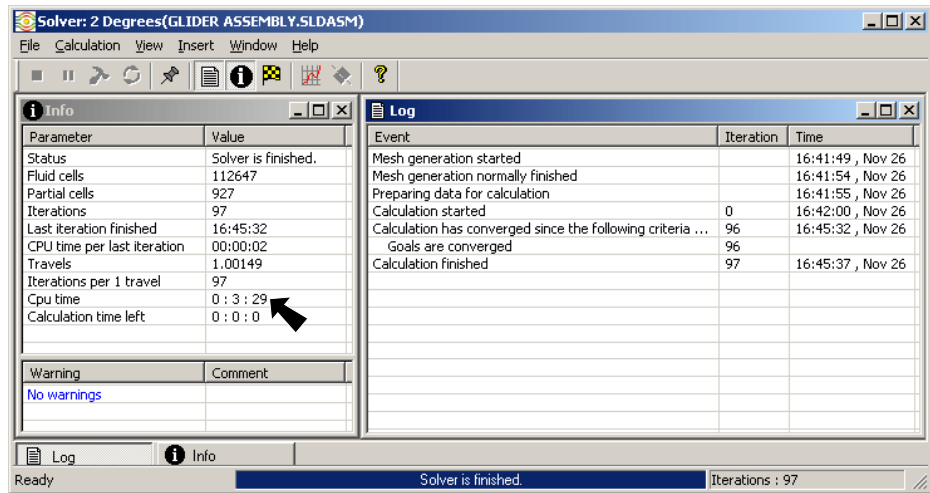

Fig. 17
Step 1. In the Solver dialog box you can view Calculation time left, **Fig. 17**. The CPU time runs around 1-4 minutes depending on glider design and computer.